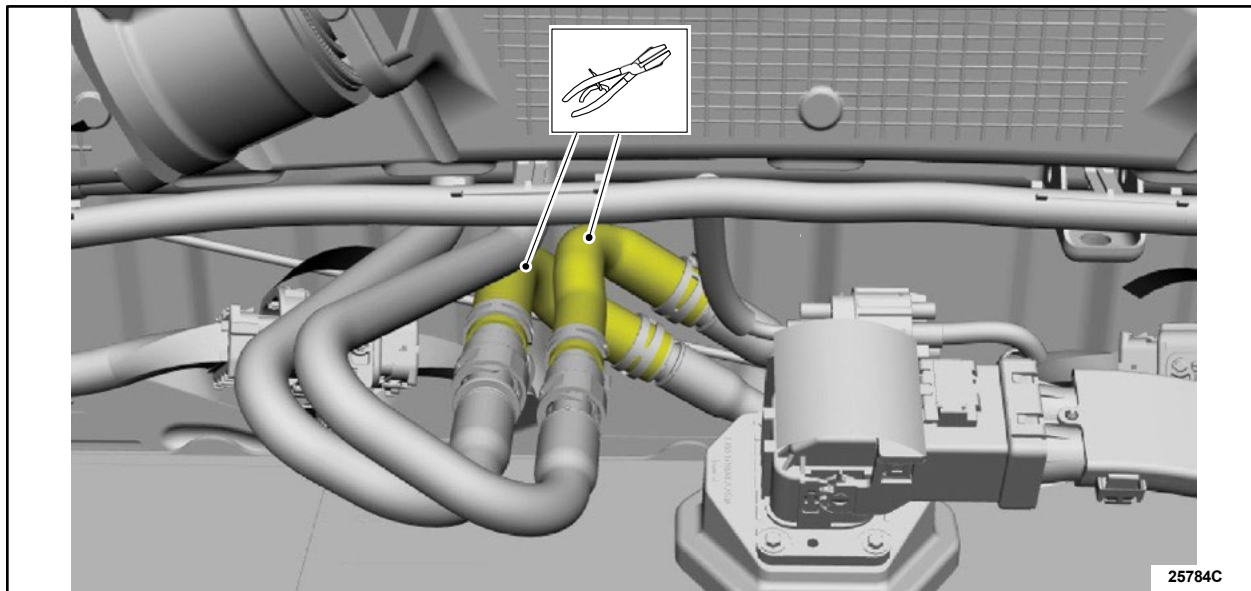

FIGURE 7
11. Clamp the cooling hoses to the rear electric drive assembly. See Figure 7.